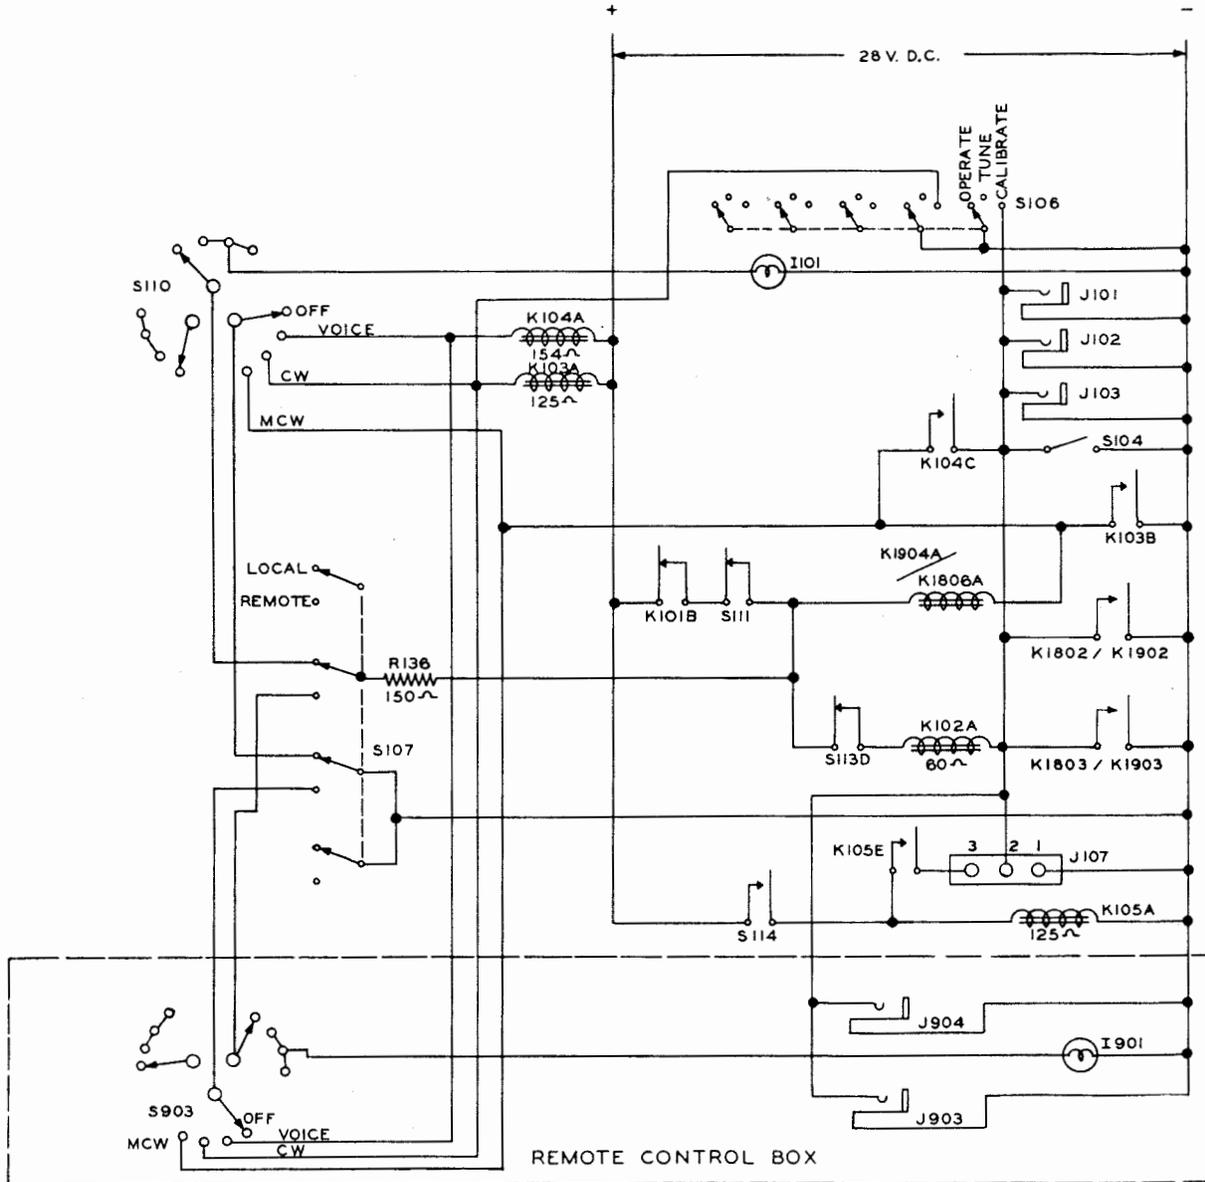

Fig. 13 Simplified Transmitter Power Control Circuits
2.3.5. Figure 13 shows a simplified schematic of the transmitter power control circuits.